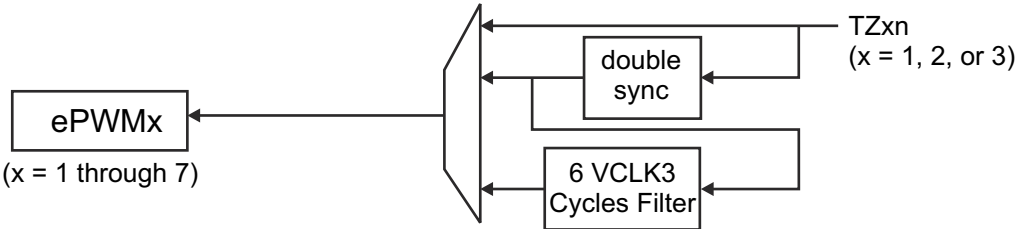

图 8-2. ePWMx Input Synchronization Selection Detail
A. For more detail on the ePWMx input synchronization selection, see 图 8-2.
图 8-2 shows the detailed input synchronization selection (asynchronous, double-synchronous, or double synchronous + filter width) for ePWMx.
These 3 trip zone inputs are driven by external circuits and are connected to device-level inputs. These signals are either connected asynchronously to the ePWMx trip zone inputs, or double-synchronized with VCLK3, or double-synchronized and then filtered with a 6-cycle VCLK3-based counter before connecting to the ePWMx (see 图 8-2). By default, the trip zone inputs are asynchronously connected to the ePWMx modules.